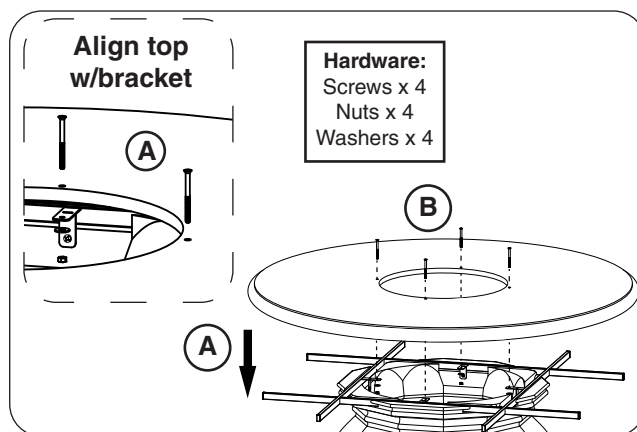

Fig. 29-3 Place top and fasten
4. **CAREFULLY** place the top on the unit, ensuring that the holes in the top piece align with the holes found in the bracket below (see Fig. 29-3, A).
5. Use a flathead screwdriver and the supplied bolts (4), nuts (4), and washers (4) to fasten the top piece to the bracket as shown in Fig. 29-3, B.